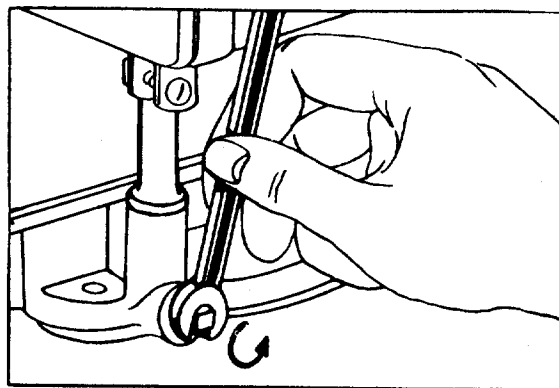

FIGURE 21.
After the first five hours of operating a new engine, drain the oil (see figure 21) from the crankcase while engine is still hot and refill crankcase with new oil; thereafter change the oil every 25 hours of operation. This procedure ensures minimum wear of engine parts. To change the oil, proceed as follows:
1. With the machine on level ground, place a suitable metal container under the oil drain plug, then remove the drain plug. See figure 21.